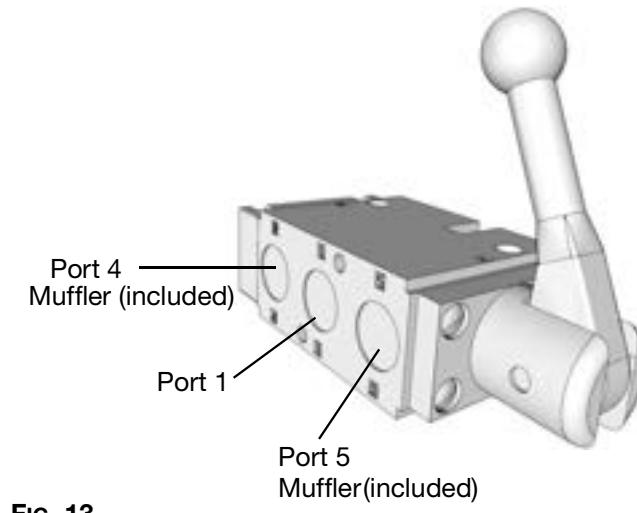

FIG. 13
- b. Connect port 2 to the reel air motor (FIG. 13).